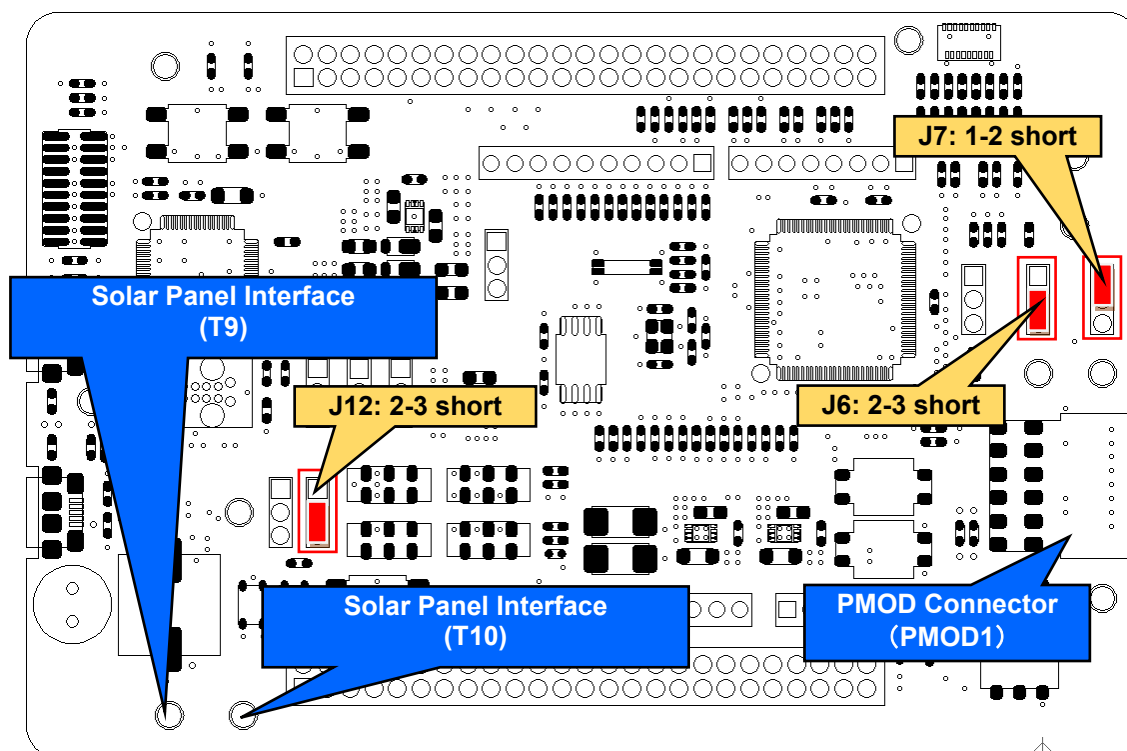

Figure 5-7: Component Layout and Settings (EHC Operation)
2. Follow the settings shown in **Figure 5-7** and **Table 5-9**.